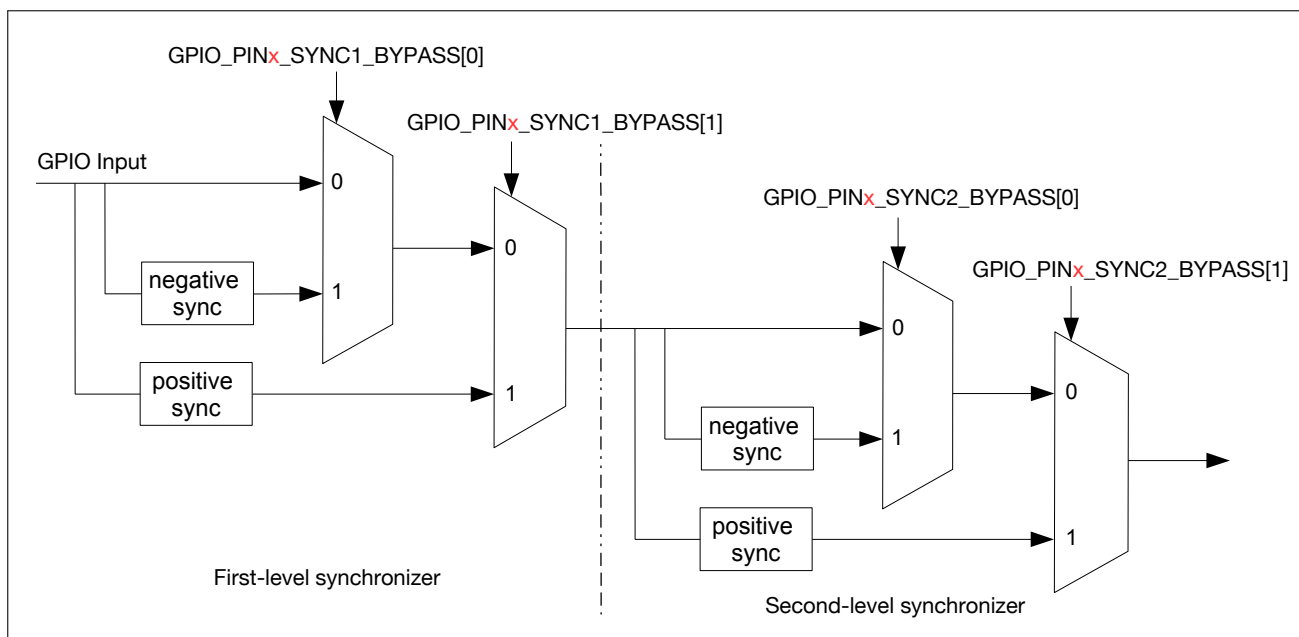

Figure 9.4-1. GPIO Input Synchronized on Rising Edge or on Falling Edge of HP IO MUX Operating Clock
The synchronization function is disabled by default by the synchronizer. But when an asynchronous peripheral signal is connected to the pin, the signal should be synchronized by the two-level synchronizer (i.e., the first-level synchronizer and the second-level synchronizer as shown in Figure 9.4-1) to lower the probability of causing metastability.
- Set `GPIO_PINx_SYNC1_BYPASS` to enable input signal synchronized on rising edge or on falling edge in the first-level synchronization, see Figure 9.4-1.
- Set `GPIO_PINx_SYNC2_BYPASS` to enable input signal synchronized on rising edge or on falling edge in the second-level synchronization, see Figure 9.4-1.